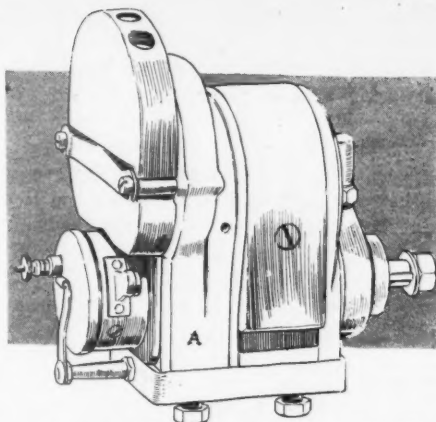

FIG. 1—HERZ R-4 WITH ALUMINUM CASE, A
**Bosch**—No radical changes are to be noted in the products of the Bosch company. However, the variable timing lever arm is worthy of note, as well as the methods adopted for making the instrument proof against water and dirt. The dismantled lever arm parts are shown in Fig. 4. The arm no longer is integral with the lever. Thus, if the position of the advance is to be changed, the screws of the lever arm, M, are loosened and the arm shifted to the desired position and the screws then tightened. The spark gap has been encased and the magneto entirely inclosed. All joints have been made dust and water-proof. By a decidedly clever arrangement, the Model ZR may be timed without removing a part. A window, W, in Fig. 11 on the distributor board cover is used to tell the position of the distributor arm. The figure 1 appears at the window which indicates that the distributor arm is making contact with segment number 1. There are no other numbers making it necessary to use No. 1 cylinder when timing. There is another window,
W2, at the top of the magneto as shown in Fig. 10. This is to tell the position of the breaker points. When a mark on a tooth of the gear is in line with a similar mark on the window the breaker points are beginning to separate. Thus, in order to set the magneto in position the window is watched until figure 1 appears. No. 1 piston is then put in its proper position. The magneto shaft is turned until the breaker points are beginning to separate, and then slipped into position. Fig. 11 also shows the lever arm, M, in position.
**Herz**—Making the housing of aluminum is a feature of the 1913 Herz magneto shown in Fig. 1. The overlapping magnets is another interesting feature. The automatic timing adjustment brought out last year still continues to be attractive. An illustration of the device is